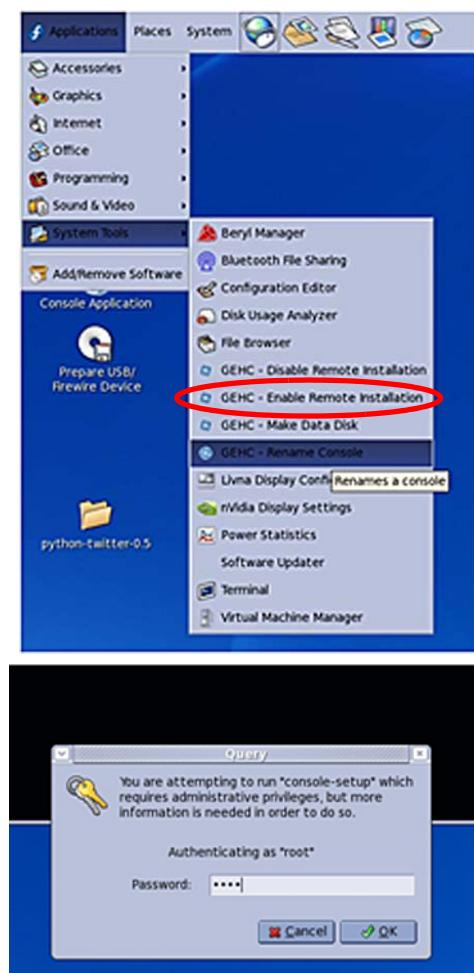

Figure 5-33
4. On the Console computer, select “Application – System Tools – Enable Remote Installation”. Enter the password: **operator**. (Figure 5-33). Note that the password dialog box may not appear. In this case, the system caches the password, so it is not needed to continue.